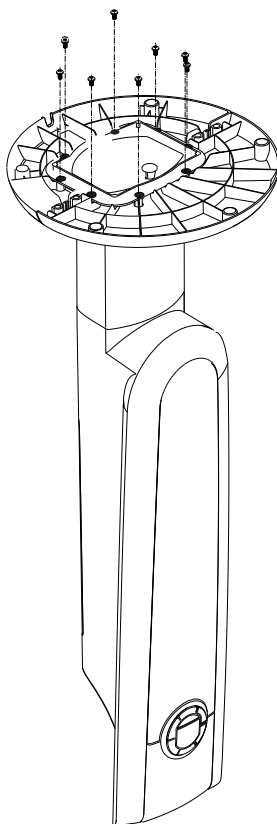

Fig. 2
2. Turn the appliance upside down and fix the base to the body of the appliance with the screws provided (see figure 2).